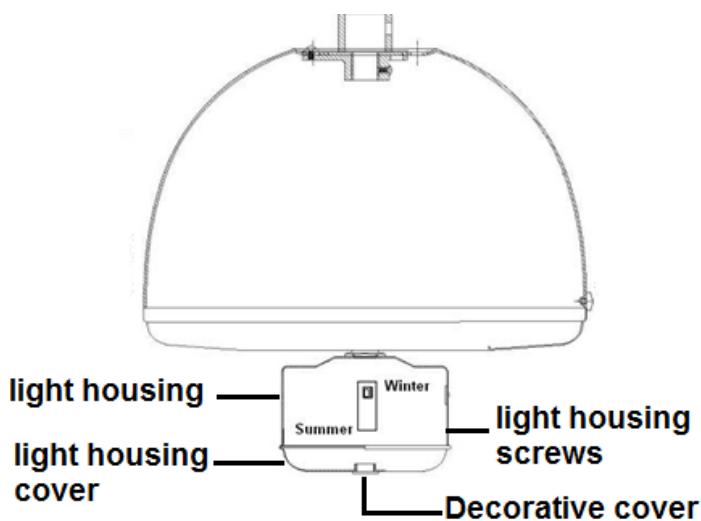

Fig. 8
1. Take off the light housing cover from light housing via loosening the light housing screws(Fig.8)